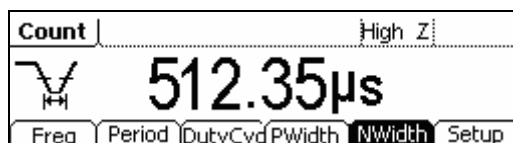

Figure 3-17
(5) Negative width view: press **NWidth**, the negative width will display as figure 3-17.